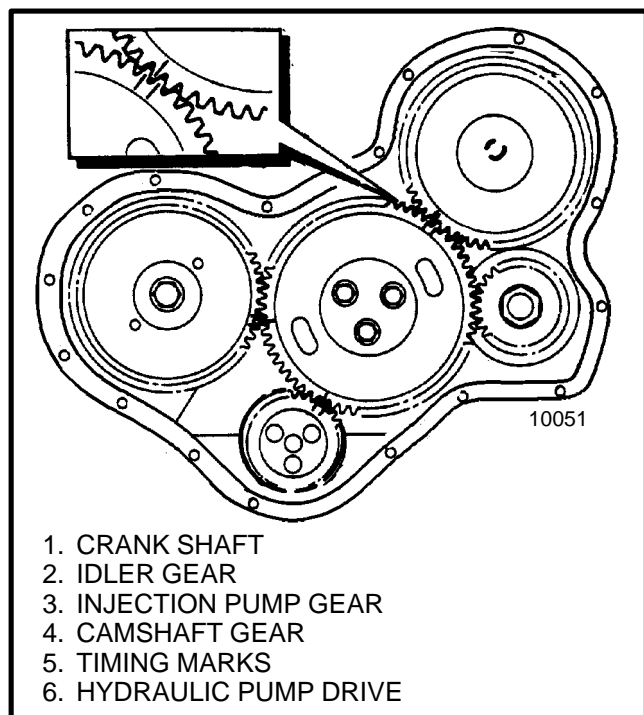

FIGURE 14. TIMING GEARS
3. Rotate the crankshaft until the timing marks on the timing marks on the timing gears are aligned. See FIGURE 14. Remove the nuts for the retainer for the idler gear. Remove the idler gear and hub assembly.